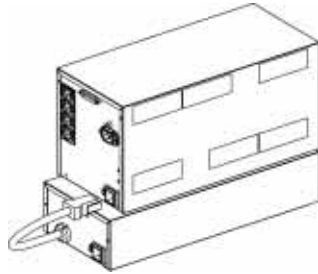

fig. 3: ON Series UPS and External Battery Connections
1. Connect the battery cable from the closest battery enclosure to the external battery receptacle on the UPS, see fig. 3.